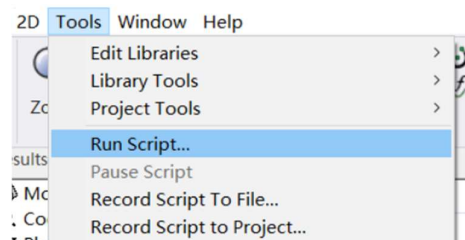

Fig. 6
- Run the script in “Tools > Run script” (Fig. 6). The excitation will automatically be arranged.